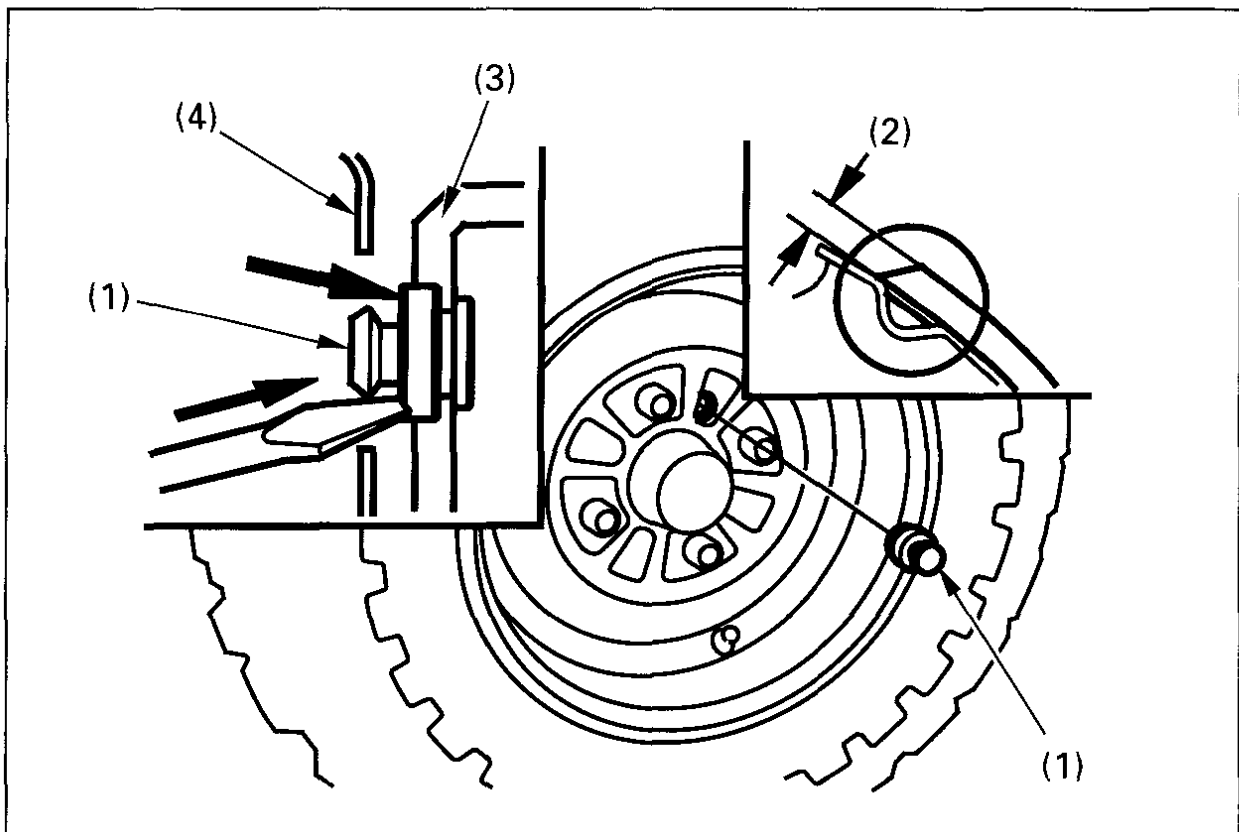
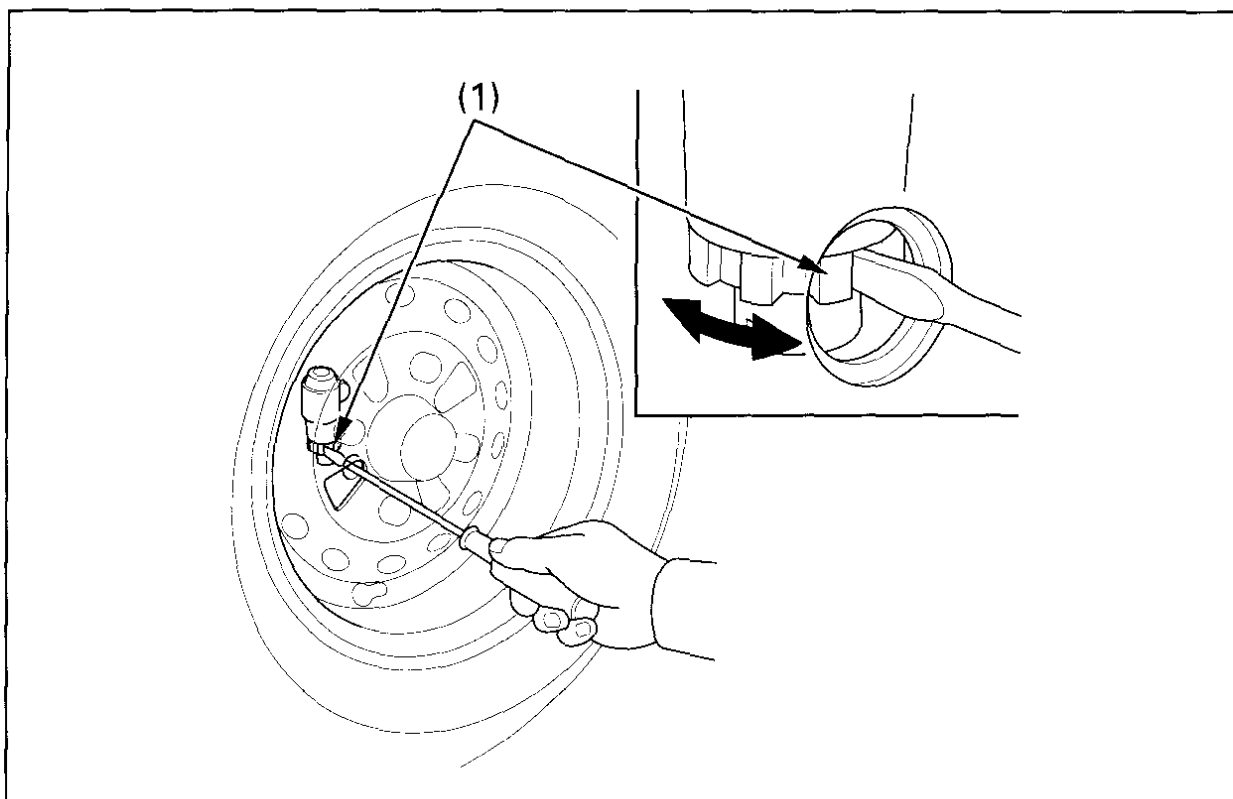

Fig. 4-25
Fig. 4-26
(1) Front brake lever
2. Remove the inspection hole plug (Fig. 4-25) and measure the lining thickness (2) on both front wheels.
3. If the brake lever free play and the brake shoe lining thicknesses are within the recommended limits, reinstall the inspection hole plugs, seating them into the inspection holes as shown in Fig. 4-25.
3. Beginning with either the left or right front wheel, remove the inspection hole plug (Fig. 4-25) and line up the hole with one of the brake adjusters (Fig. 4-26).
4. Using a screwdriver, turn the brake shoe adjuster (1) in the direction of the arrow until the front brake locks.
(1) Brake adjusters
7. Reinstall the inspection hole plug, seating it into the inspection hole as shown in Fig. 4-25.